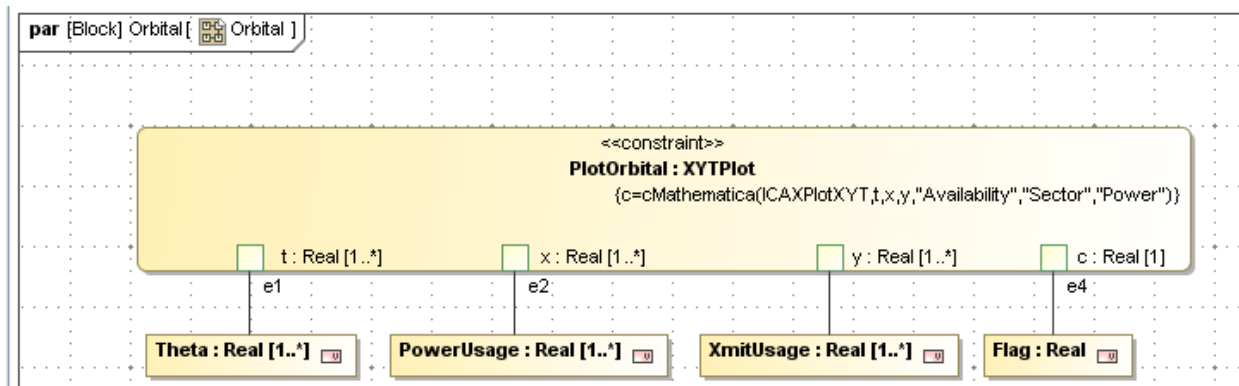

Figure 6.7 Parametric diagram for Orbital
8. Create a second parametrics diagram inside **Orbital**, as shown in Figure 6.7. This diagram exists to plot the values of the **PowerUsage** and **XmitUsage** against **Theta** during ParaMagic execution. Users of ParaMagic 16.9 Lite will not be able to execute this graphing function and should skip step 8 a-b.